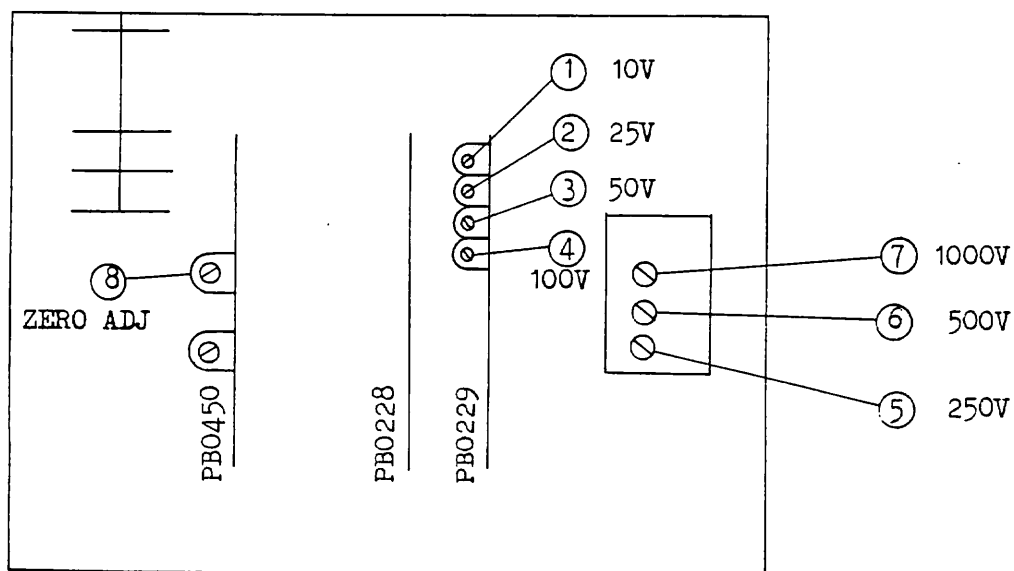

Fig. 5-1 Positions of calibration VR
- 2) Set the [SUPPLY VOLTAGE] switch to the [10V] position, and adjust VR ① of Fig. 5-1 for a reading of 10.00V at the digital voltmeter.
- 3) Adjust the VR ② to ⑦ from [25V] to [1000V] in the same manner.